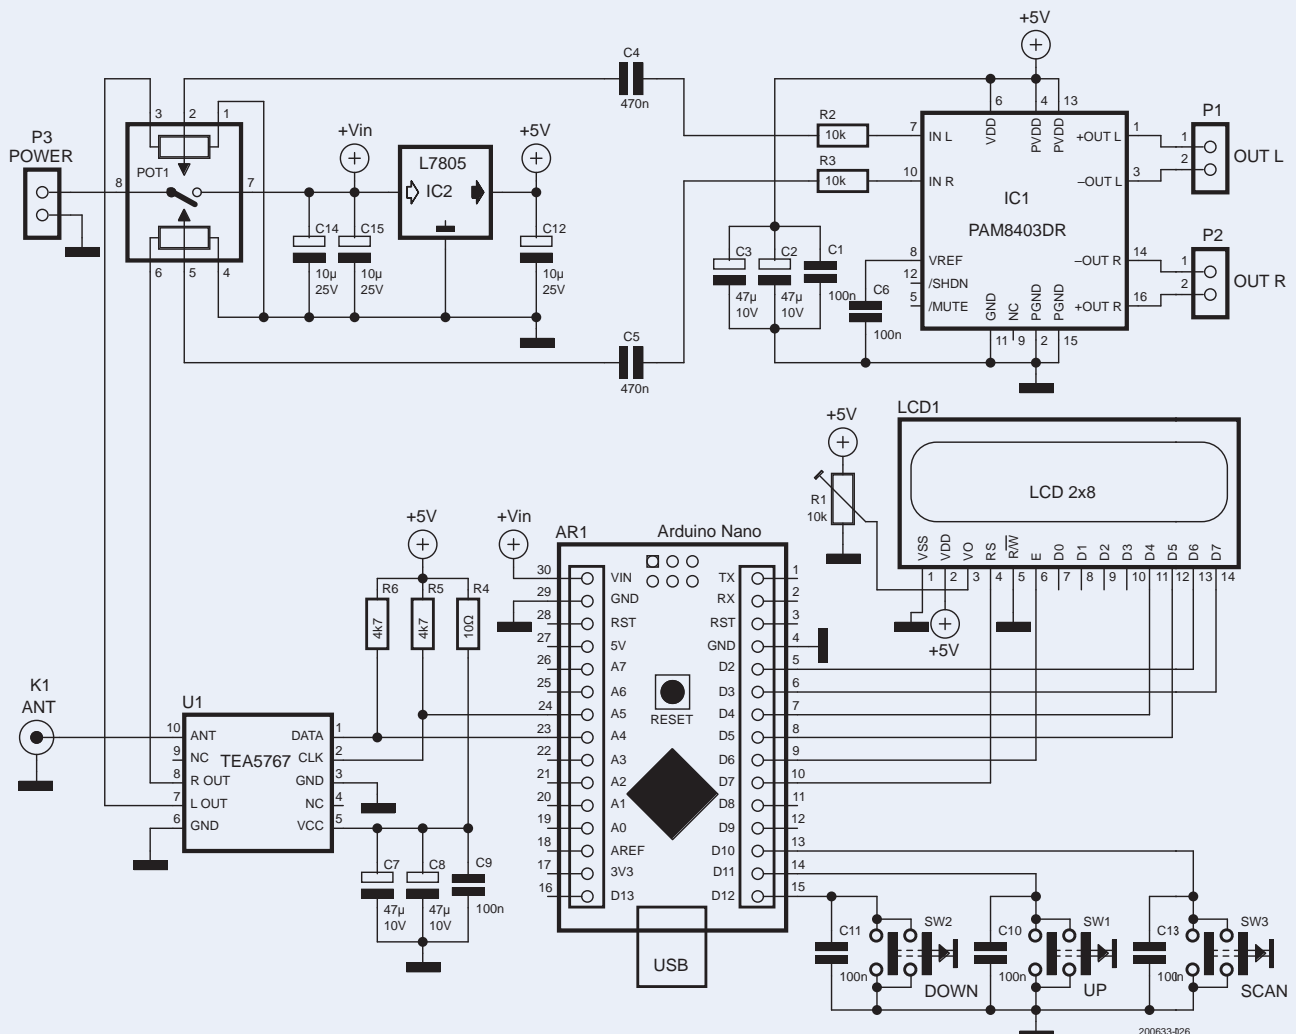

Figure 1: The schematic diagram of the FM receiver.
**Figure 1** shows the schematic diagram of the device. The circuit consists of three main parts: the FM receiver module, the audio amplifier, and the digital section with